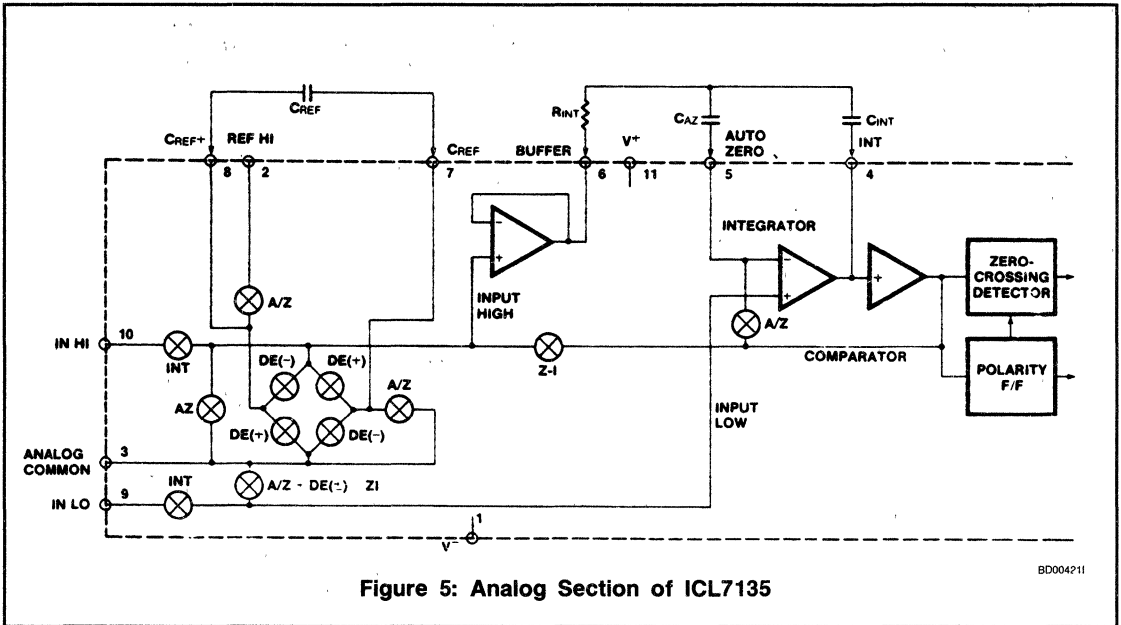

Figure 5: Analog Section of ICL7135
Figure 5 shows the Block Diagram of the Analog Section for the ICL7135. Each measurement cycle is divided into four phases. They are (1) auto-zero (A-Z), (2) signal-integrate (INT), (3) deintegrate (DE) and (4) zero-integrator (ZI).